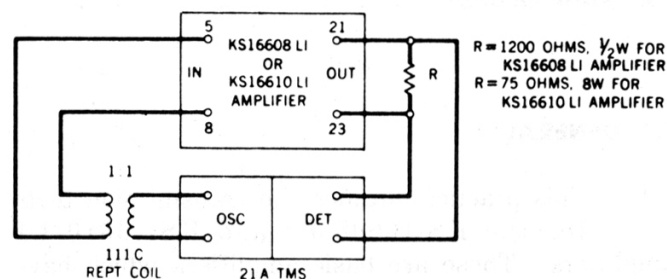

Fig. 1—Test Setup for Gain-Frequency Test—High Impedance Input
5.02 Figures 1 through 5 show the test setup for measuring the gain-frequency response of the KS-16608 L1 and KS-16610 L1 amplifiers for various input arrangements. CHART 1 OUTLINES THE STEP PROCEDURE FOR MAKING THIS TEST FOR ALL INPUT ARRANGEMENTS.